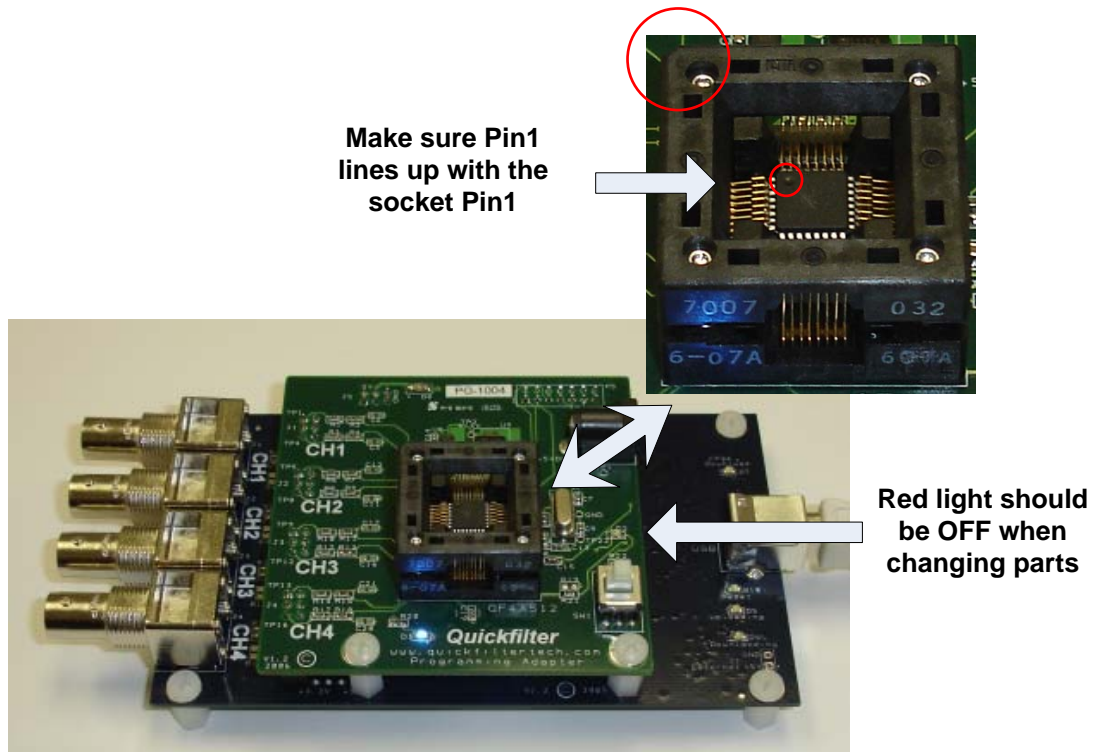

Figure 4
Step 3: Put a QF4A512 into the socket by pushing down evenly on both sides of the socket while making sure to take note of the proper pin alignment of PIN1. See figure 4.